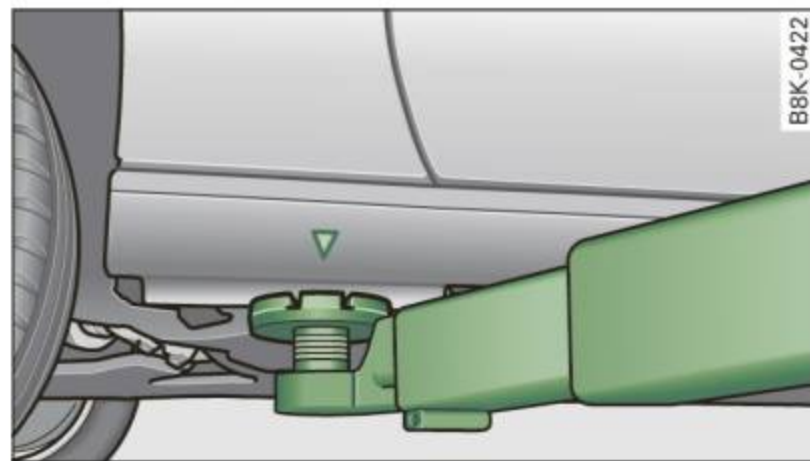
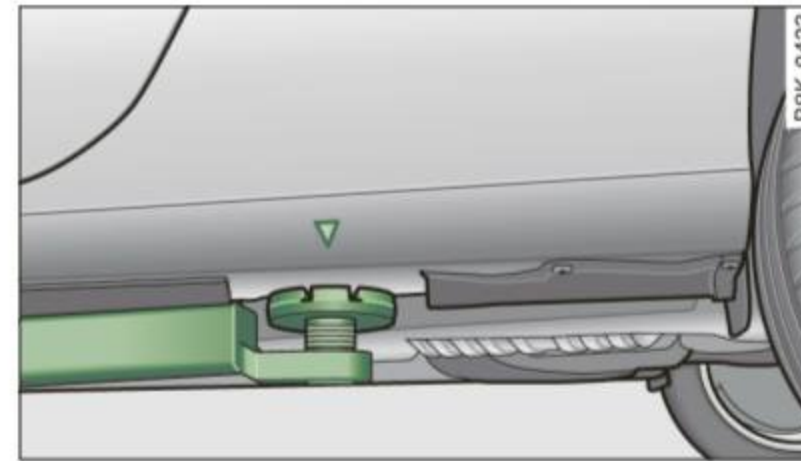

Fig. 238 Front lifting point
Fig. 239 Rear lifting point
- Locate lifting points ⇒ fig. 238 and ⇒ fig. 239.
The lifting point is located on the floor pan reinforcement about at the same level as the jack mounting point ⇒ fig. 238. **Do not lift the vehicle at the vertical sill reinforcement.**
The lifting point is located on the vertical reinforcement of the lower sill for the onboard jack ⇒ fig. 239.
- Always lift the vehicle only at the special workshop hoist and floor jack lift points illustrated ⇒ fig. 238 and ⇒ fig. 239.